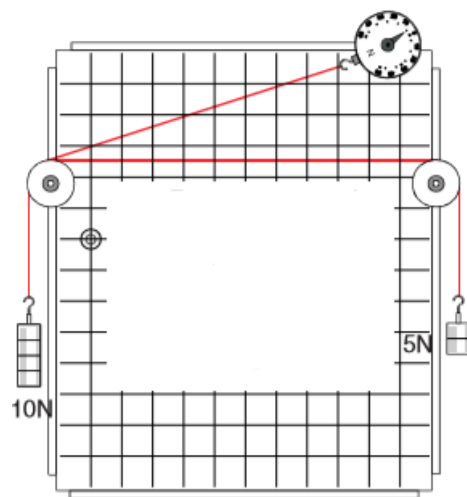

Figure 6: Forces on a line
- 1) Set up the experimental board as shown in Figure 6. Initially only add the 10 N weight and the string from the 10 N weight to the dynamometer. Record the dynamometer value.